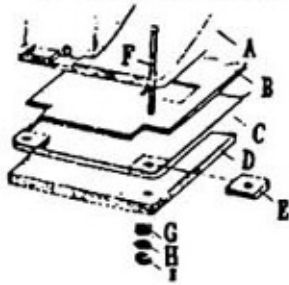

Fig. 1
- a. Put Cushion D, Brace C, Cushion B, Cushion E, Machine Head A onto the table, then put Bolt F through holes, Washer G and Washer H and tighten Nut I (Fig. 1) finally.